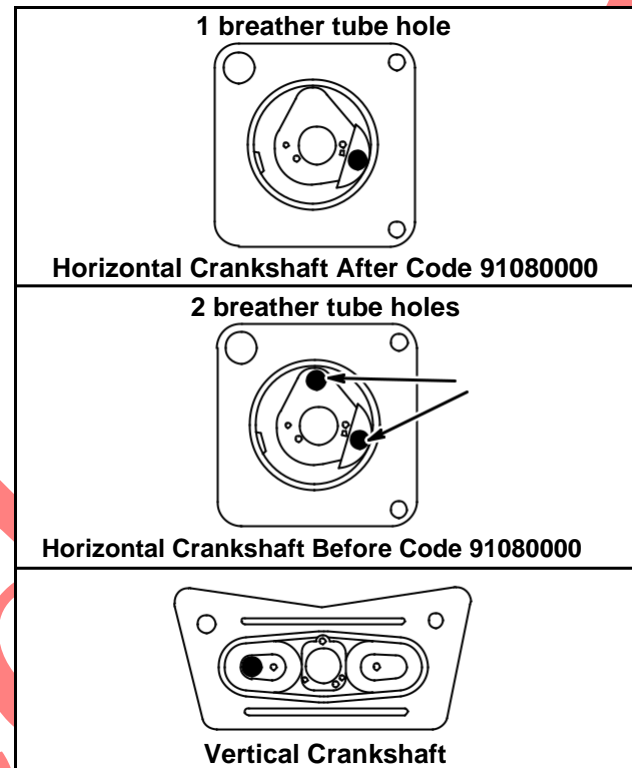

Fig. 43 – Breather Tube Locations
**IMPORTANT:** ALL MODELS, breather tubes must be installed on filtered side of air cleaner element, Fig. 43. If breather tubes are incorrectly installed, premature engine wear will result.